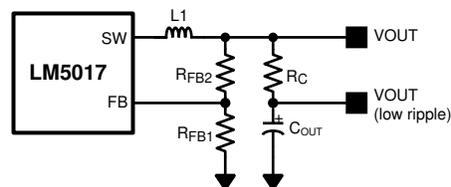

Figure 7-1. Low Ripple Output Configuration
This regulator regulates the output voltage based on ripple voltage at the feedback input, requiring a minimum amount of ESR for the output capacitor (C_{OUT}). A minimum of 25 mV of ripple voltage at the feedback pin (FB) is required for the LM5017. In cases where the capacitor ESR is too small, additional series resistance may be required (R_C in Figure 7-1).
For applications where lower output voltage ripple is required the output can be taken directly from a low ESR output capacitor, as shown in Figure 7-1. However, R_C slightly degrades the load regulation.